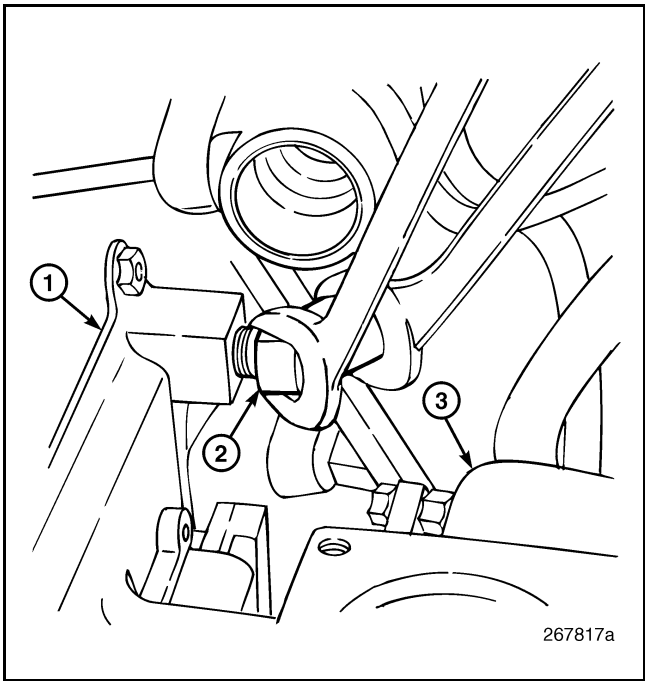

Figure 133 — Cooling Plate Fuel Lines
7. Disconnect the fuel lines at the inlet and outlet ports at the top of the cooling plate (Figure 133) and position the lines out-of-way.